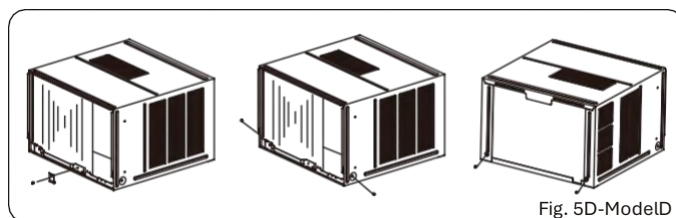

Fig. 5D-ModelID
1. Remove one screw securing the chassis mounting bracket, then remove the chassis mounting bracket (see Fig. 5D).
2. Remove the four screws on both sides and at the back of the cabinet, as shown in Figure 5D.